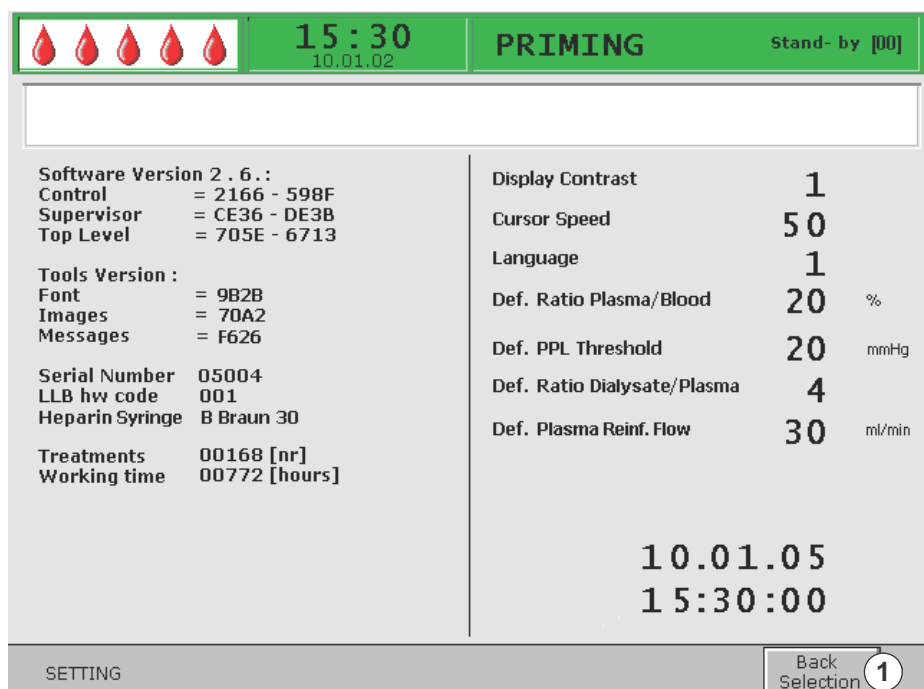

Fig. 3-8 Terminating the Settings screen
1. To terminate *Settings* screen, select *Back Selection* item (Fig. 3-8, ①) in menu bar and press *Enter* key.